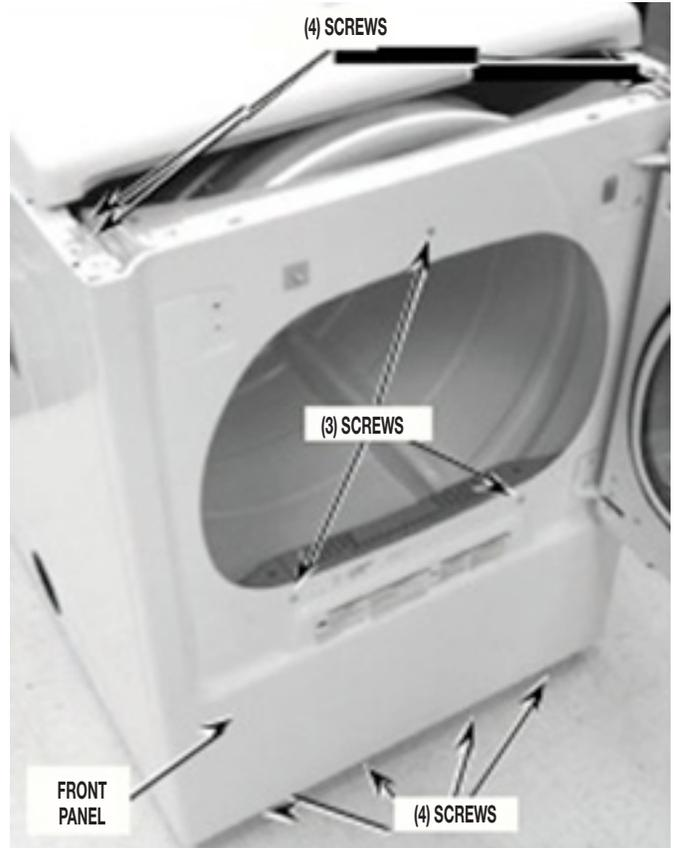

FIGURE 4
4. Remove the front panel and door assembly by removing a total of eleven (11) screws: Four (4) 1/4" hex-head screws along the bottom front, three (3) Phillips-head screws around the door opening, and four (4) T-20 Torx-head screws on the top front panel bracket. See *Figure 4*. Once screws are removed, close the door and lift up the front panel and door assembly to remove.